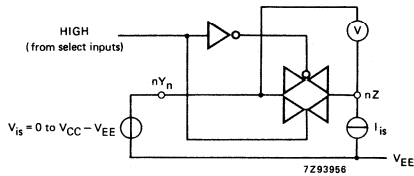

Fig. 8 Test circuit for measuring  $R_{ON}$ .
- For test circuit measuring RON see Fig. 8.